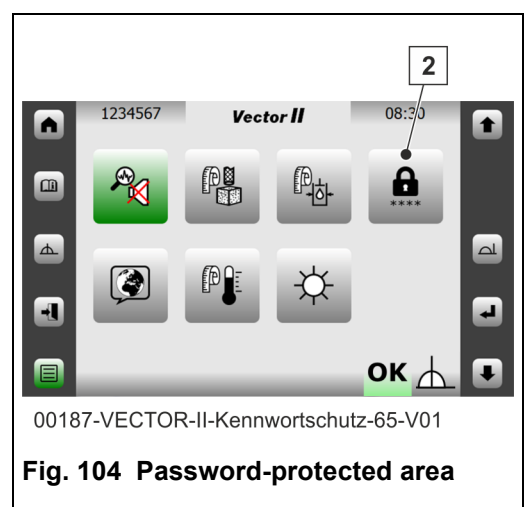

Fig. 104 Password-protected area
2. Select entry (2) (**Fig. 104**) and enter the password in order to activate “Teach mode”.